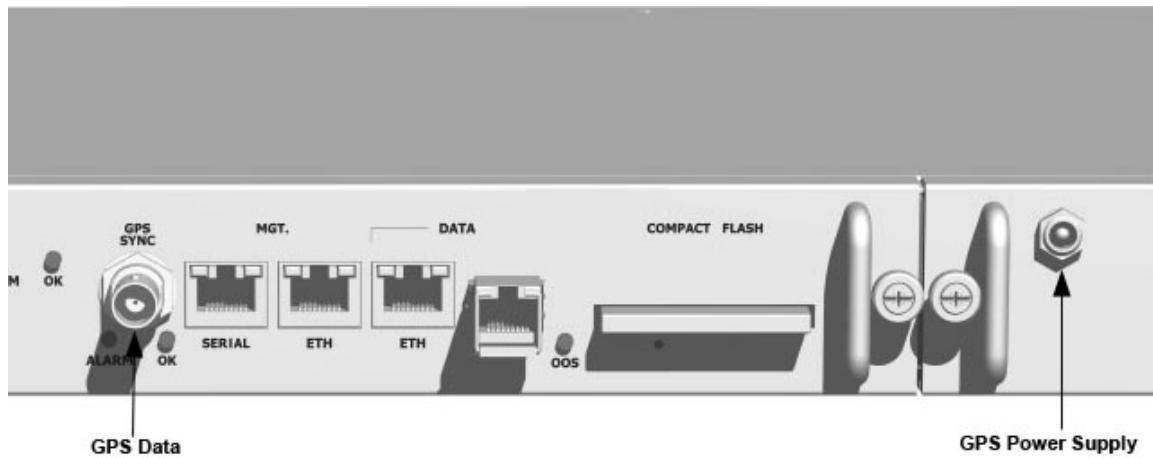

Figure 17: GPS Interface-BNC (versions 010-040)
- b) (versions 050 and higher) RJ-45 connector on the IDU (see **Figure 17**).